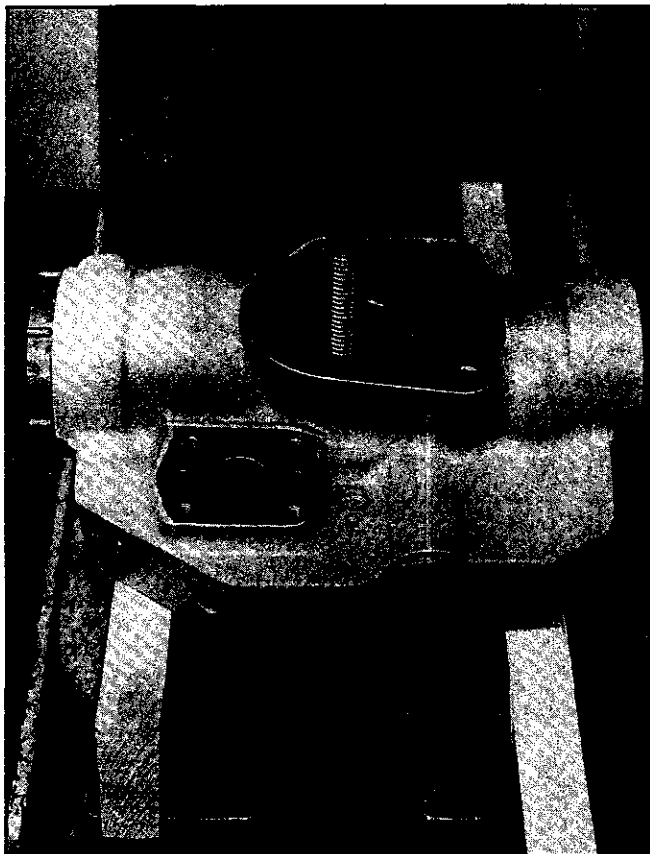
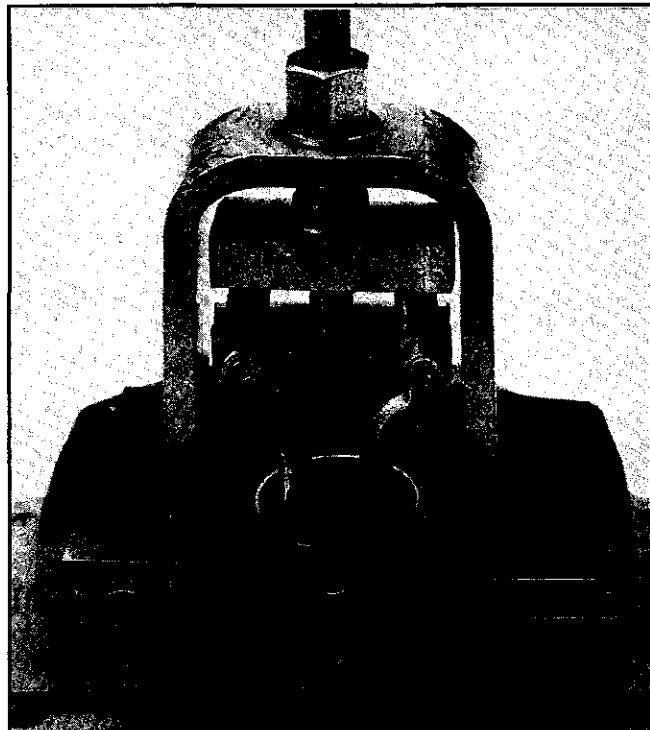

Figure 20. Removal of bearing race from valve block.
Figure 20a. Removal of bearing race from valve block with blind hole.
- 3. Remove bearing race (71) from valve block (32). Refer to Figure 20 for removal information and use tool shown in Figure 10 for PVE**G units. Use tool shown in Figure 10a and procedure shown in Figure 20a for PVE** units with a blind hole in valve block (32). BE CAREFUL not to scratch face of the valve block during removal of the race.